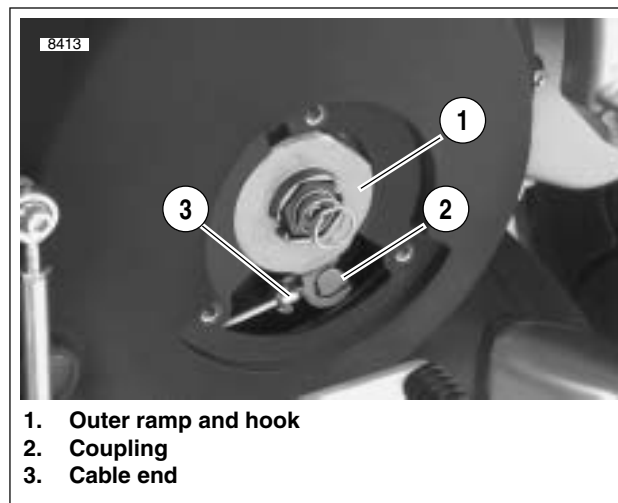

Figure 6-2. Clutch Release Mechanism
10. See Figure 6-2. Remove the outer ramp and hook (1) from the cable end (3) and coupling (2). Remove cable end from slot in coupling. See 6.3 CLUTCH RELEASE MECHANISM